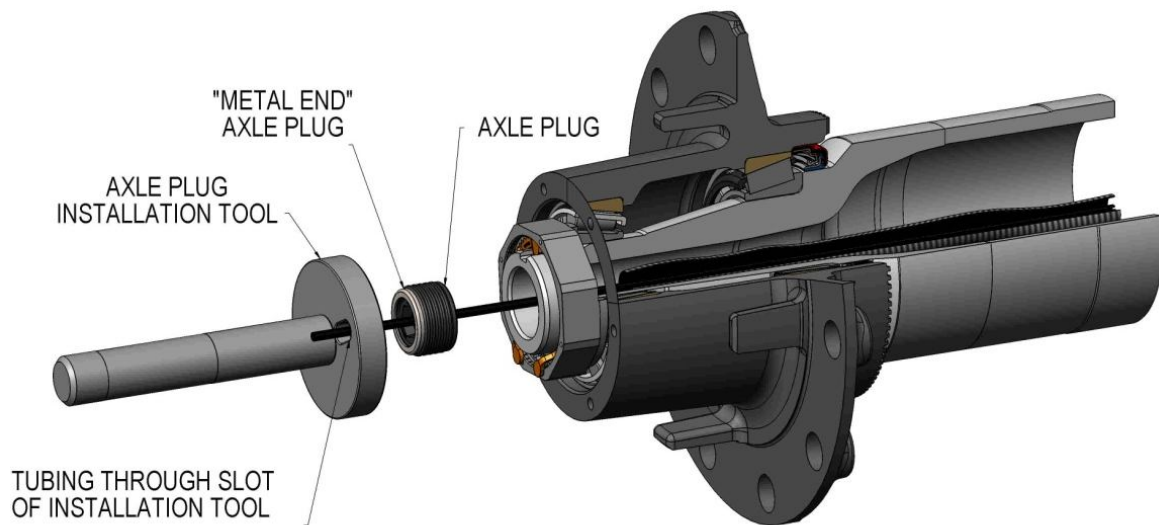

Figure 14
- Using a tubing cutter squares the end of the air line coming out of the axle after removing the masking tape. Leave 5-6" of tubing sticking out of the spindle for easier installation of the Aeris hubcap. See Figure 14